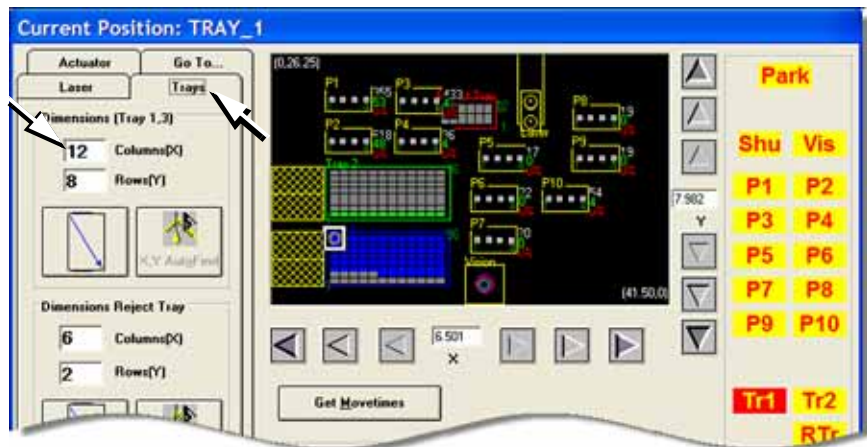

Figure 3-38: Enter tray rows and columns on the Trays tab of the Gantry Window. (PS588 shown.)
- 2b. Enter the number of columns and rows for this tray. See Figure 3-38.